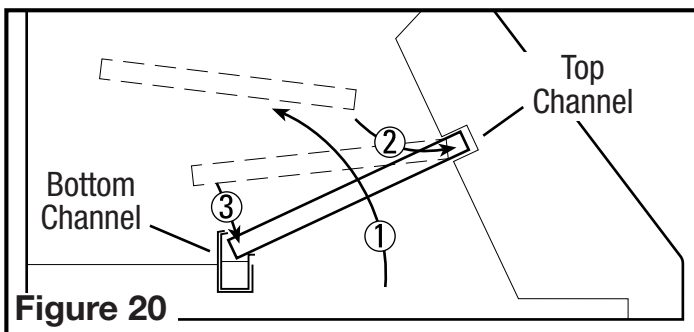

Figure 20
3. Install the baffle filters along with any spacer bars that are required by inserting the top of the filter into the top channel of the hood, then slide the bottom of the filter into the bottom channel. The filters have a top and a bottom. The bottom of the filter will have small drain holes. These holes must be facing down towards the grease trough to be effective. In models with spacers, it is easiest to install the spacer(s) first and the grease filters last (Figure 20).